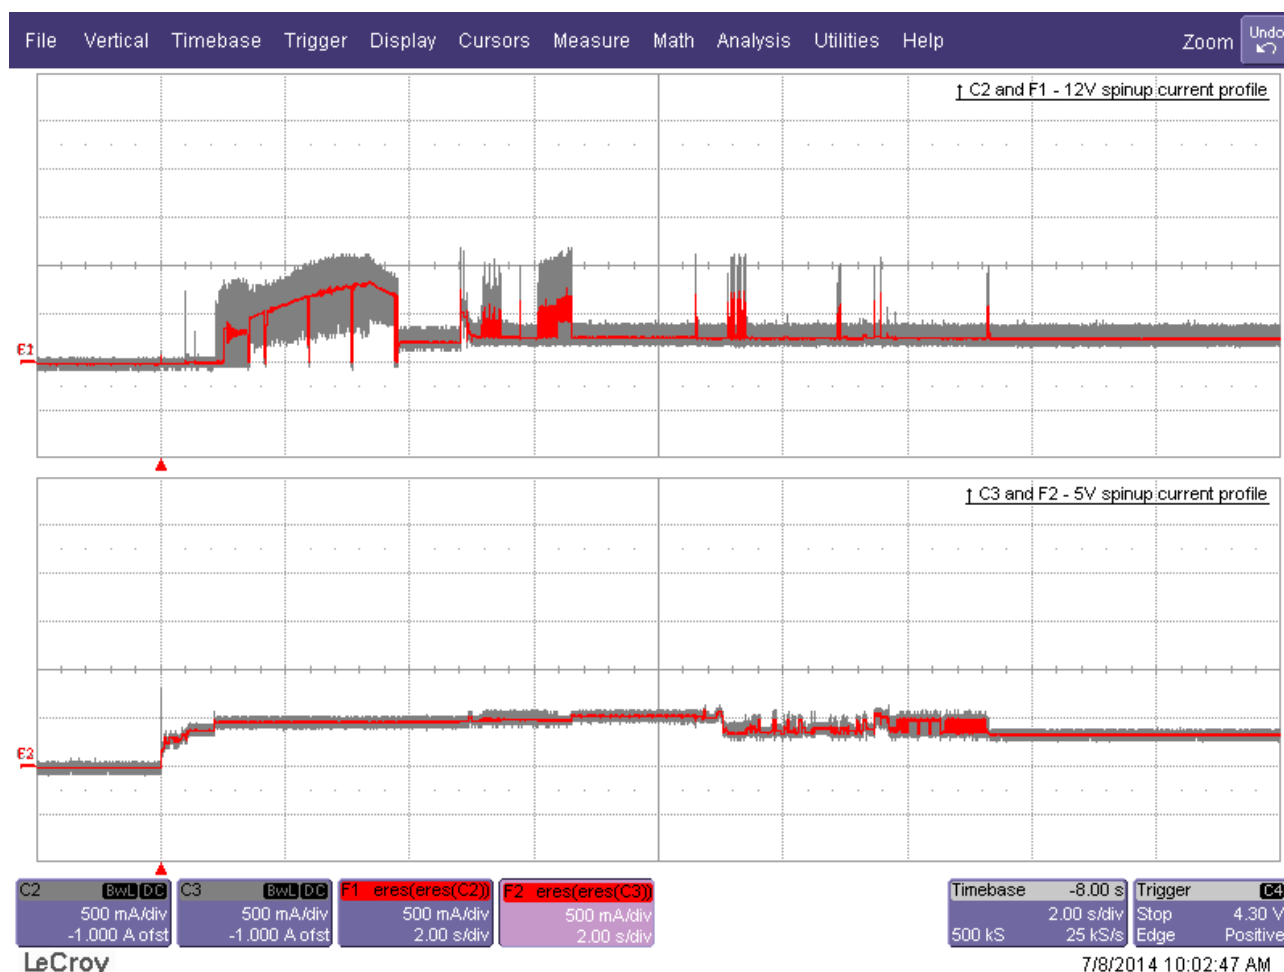

Figure 1. Current profiles for 1800GB models
- [3] See +12V current profile in Figure 1 (for 1200GB models).